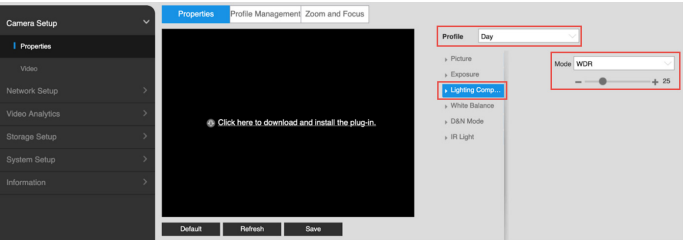

Fig. 3.5
9. From the menu options to the right of the black window, select: “Lighting Compensation.” See Fig. 3.5.